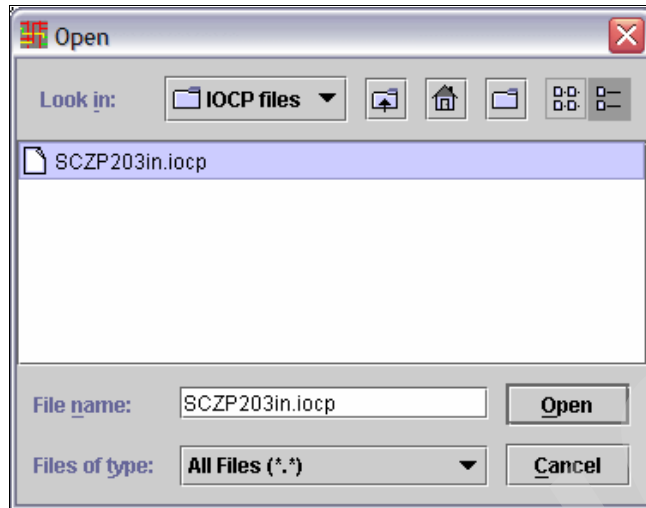

Figure 6-18 CMT - Import IOCP files
1. Import the IOCP file by clicking **Tool** → **Import IOCP File** (Figure 6-18).